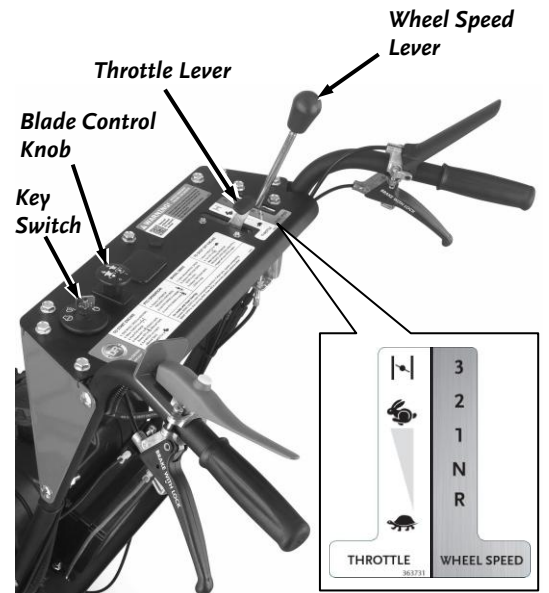

Figure 16
1. Move the Wheel Speed Lever to Neutral **N** (**Figure 16**).
3. Move the Throttle Lever to Choke  (to Fast  if the Engine is already warm) (**Figure 16**).
1. Move the Shift Lever to Neutral **N** (**Figure 16**).
- When the Engine starts, move the Throttle to the Fast  position (Figure 16).